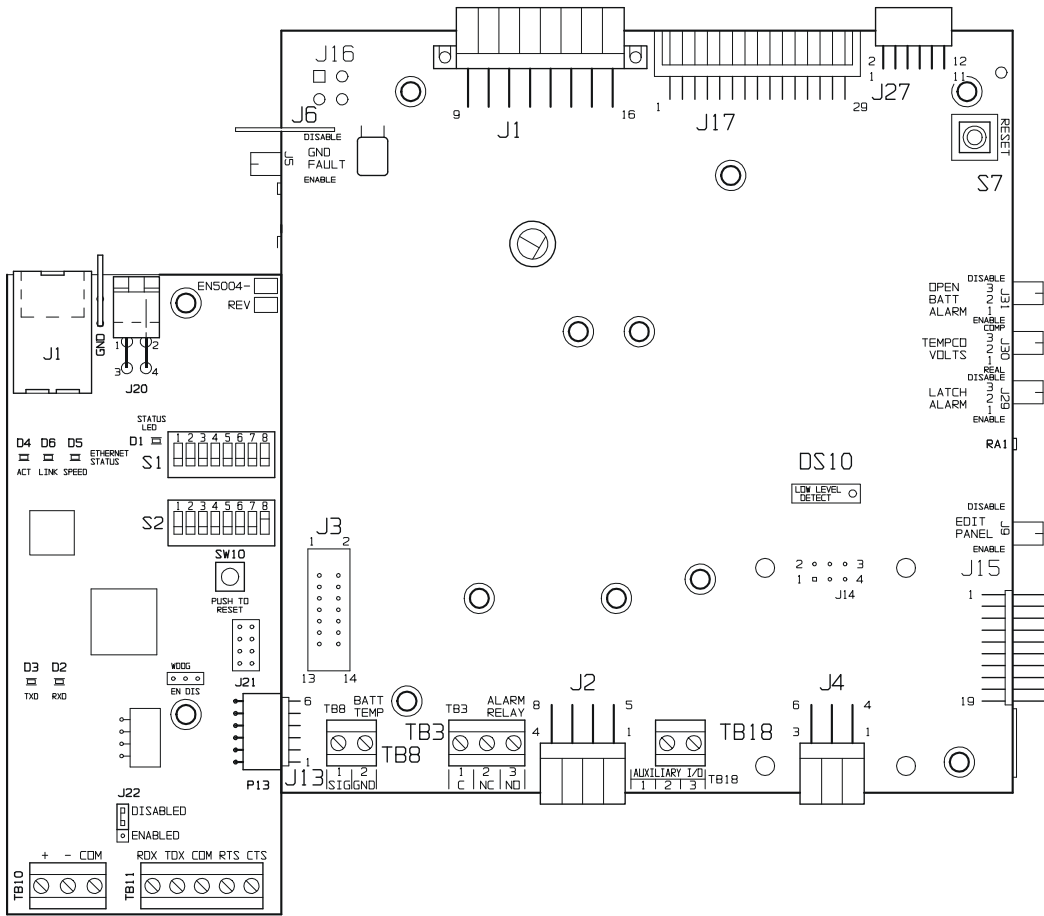

Figure 1
- Step 3** See **Figure 1** on Page 4. The EN5004-0# Communications Module pc board (A12) mounts to the left of the EN5002-00 Main Control pcb (A1), with connector **P13** plugged into **J13**. Make sure all pins on the connector line up.